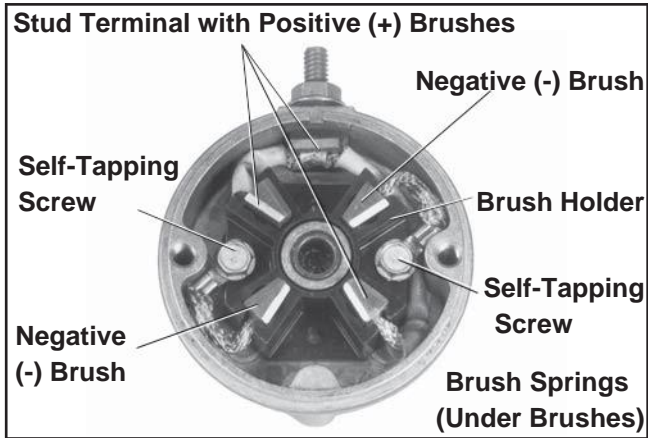

Figure 8-21. Style "A" Commutator End Cap with Brushes.
1. Remove the brush springs from the pockets in brush holder. See Figure 8-21.